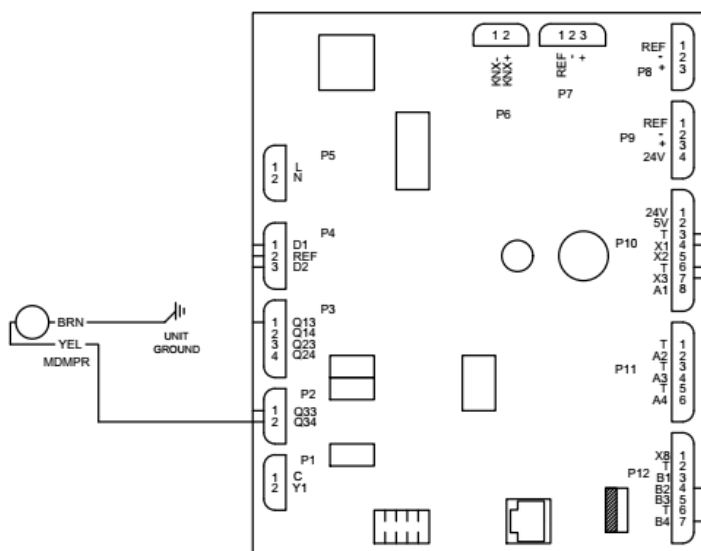

FIGURE 26 - Outside Air Damper Connection
2. Attach 24V lead to Q34 (See **FIGURE 26 - Outside Air Damper Connection**) on the ERV control board.